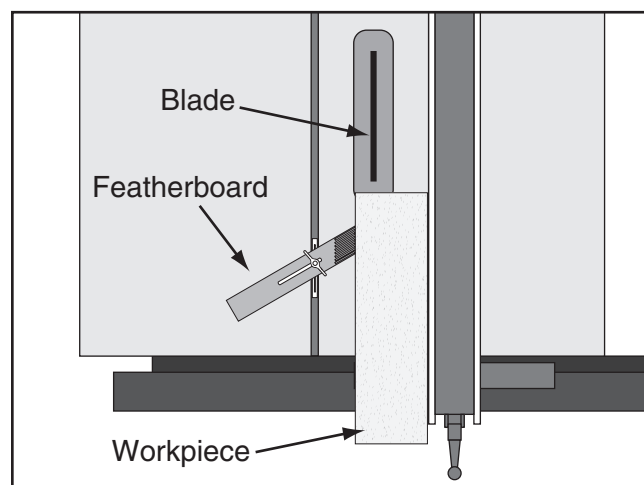

Figure 130. Featherboard installed in miter slot and supporting workpiece for ripping cut.
3. Slide featherboard miter bar into miter slot, making sure fingers slant toward blade, as shown in **Figure 130**.